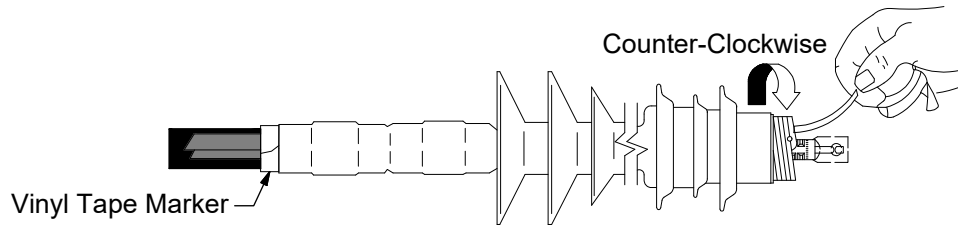

Figure 5
8. Position the terminator body on the cable. The base of the terminator body (not the core) must be butted up to the edge of the vinyl marker tape. Remove the core while unwinding in a counter-clockwise direction. Once the terminator body has made contact over the mastic seal area, there is no need to continue supporting the assembly. DO NOT push or pull the terminator while unwinding the core. See Figure 5.